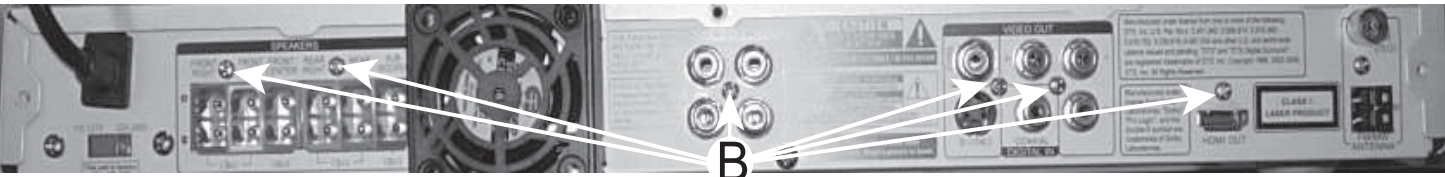

Figure 5
- 1) Loosen 6 screws “B” at the back panel as shown in figure 5.